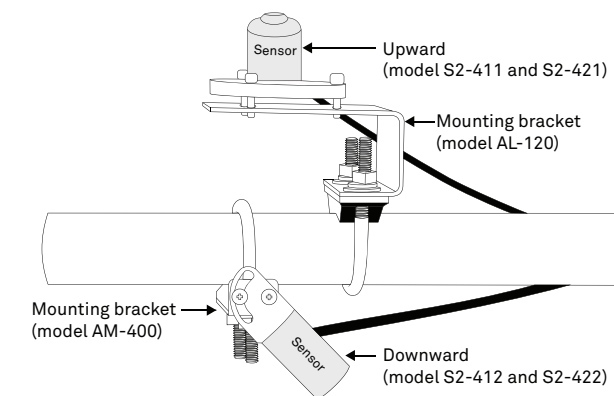

Figure 1 Upward- and downward-facing sensors installed on mast or pipe
Section 2.1.1 and Section 2.1.2 describe in detail how to mount upward- and downward-facing sensors, respectively. Figure 1 provides an example of installation for both types.
3. Attach the mounting bracket either to a horizontal arm (Figure 1) or vertical post using the included U-bolt.